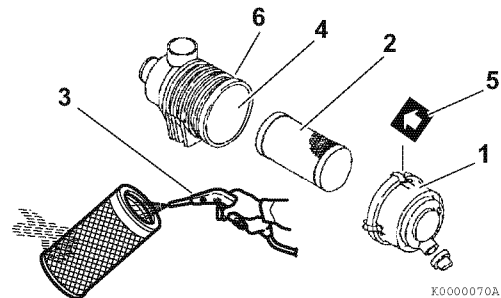
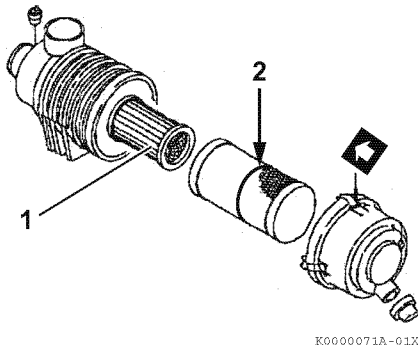

Figure 5-11
Figure 5-12
Note that a typical air cleaner is shown in **Figure 5-11** and **Figure 5-12** for illustrative purposes only.
1. Unlatch and remove the air cleaner cover (**Figure 5-11, (1)**).
2. Remove the element (**Figure 5-11, (2)**) (outer element if equipped with two elements).
3. Blow air (**Figure 5-11, (3)**) through the element from the inside out using 42 - 71 PSI (0.29 - 0.49 MPa; 3.0 - 5.0 kgf/cm²) compressed air to remove the particulates. Use the lowest possible air pressure to remove the dust without damaging the element.
4. If the air cleaner is equipped with a double element, only remove and replace the inner element (**Figure 5-12, (1)**) if the engine lacks power or the dust indicator actuates (if equipped).
8. Install the element into the air cleaner case (**Figure 5-11, (4)**).
*Note: If there is a red line (**Figure 5-12, (2)**) in the outer element, reinsert the element until the overlap position of red line and end face of the air cleaner case.*
9. Reinstall the air cleaner cover making sure you match the arrow (**Figure 5-11, (5)**) on the cover with the arrow on the case (**Figure 5-11, (6)**).
Replace the air cleaner element (**Figure 5-11, (2)**) every 500 hours even if it is not damaged or dirty.
When replacing the element, clean the inside of the air cleaner case (**Figure 5-11, (4)**).
If the air cleaner is equipped with a double element, *only remove and replace the inner element (**Figure 5-12, (1)**) if the engine lacks power or the dust indicator actuates (if equipped)*. This is in addition to replacing the outer element.